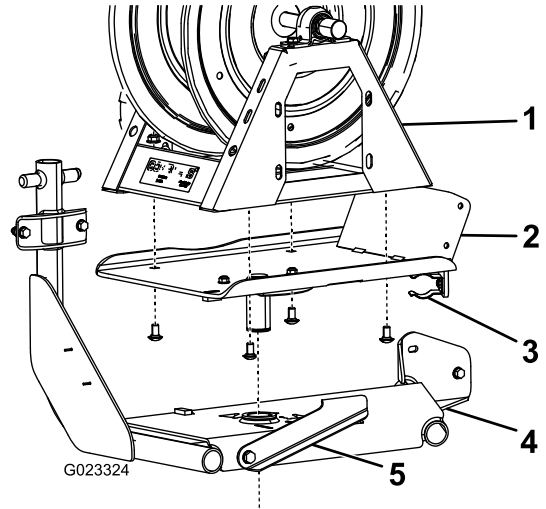

Figure 9
2. Attach the swivel plate to the bottom of the hose reel using 4 carriage bolts and 4 flange nuts (3/8 inch) (Figure 9).
3. Drop the swivel plate into the hole on the hose-reel frame (Figure 9).